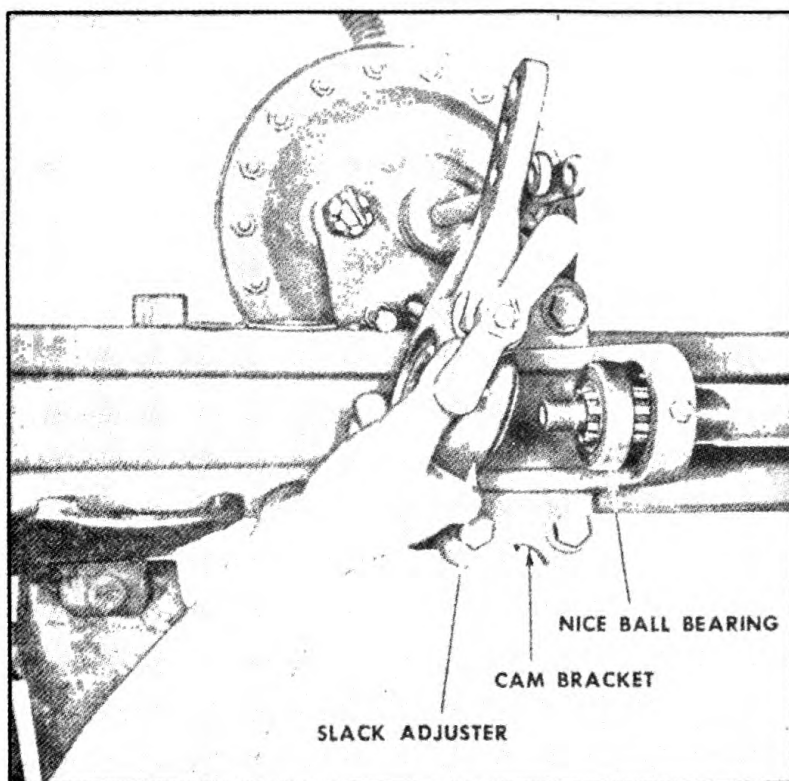

FIGURE 23. REMOVING NICE BALL BEARING
(2) Place the new needle bearings into position and tap gently to start them evenly.
(3) Place pieces of flat wood against both brake adapter and bearing and squeeze the bearing into position with a C-clamp. Bearings should be flush with the outer edges of the adapter.
(4) Inspect to make sure bearings do not cover lubricating hole.
d. Replacing Nice ball bearing in cam bracket, front only.—(1) Remove the slack adjuster. (See Cam Replacement instructions.) (Figure 23).
(2) Tap the outer side of the cam bracket and the ball bearing will usually work out.
(3) If this fails, remove the Alemite fitting, insert a small screwdriver in the Alemite fitting hole and pry outward against the bearing. Continue tapping the cam bracket with a small hammer.